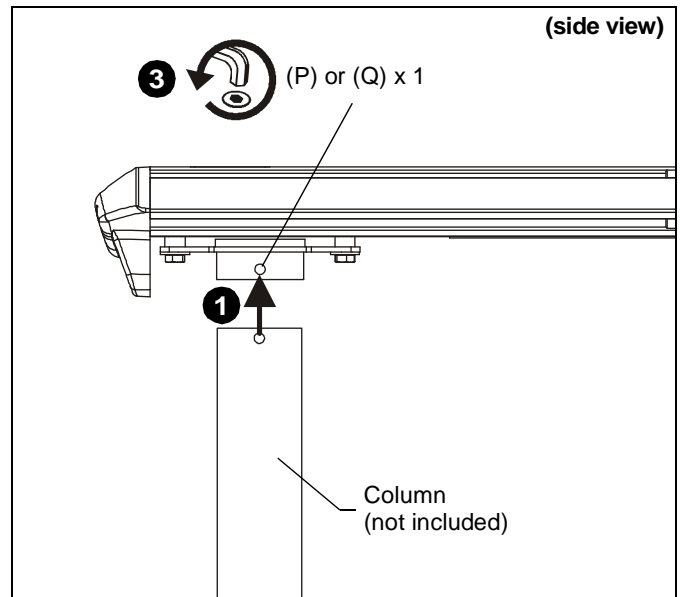

Figure 14
1. Line up mounting holes on column (not included) with corresponding hole on WMA1S mounting plate. (See Figure 14)
3. Install one 5/16-18 x 1/4" set screw (P) or one 5/16-18 x 1/4" security set screw (Q) through hole in WMA1S mounting plate and column. (See Figure 14)